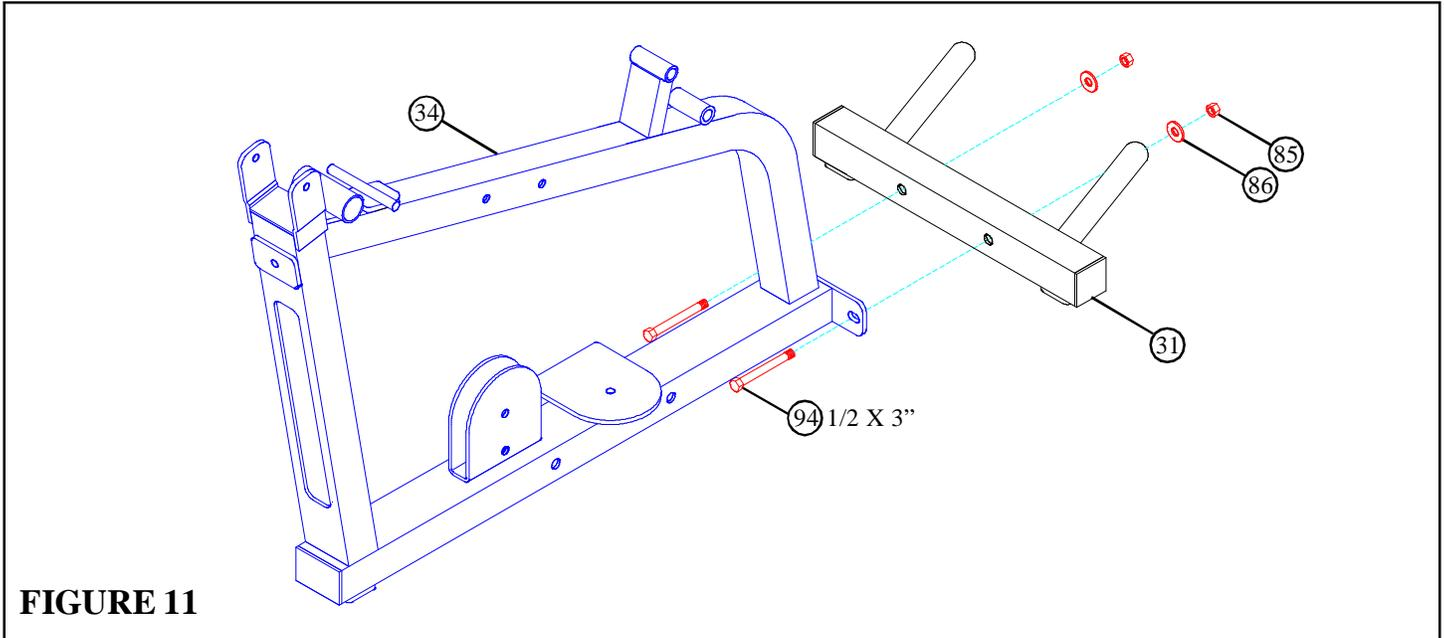

FIGURE 11
- **SECURELY** assemble the REAR BASE LEG (31) to the LEG FRAME (34) using two 1/2 X 3" BOLTS (94), two 1/2" WASHERS (84), and two 1/2" LOCK NUTS (85) as shown in FIGURE 11.